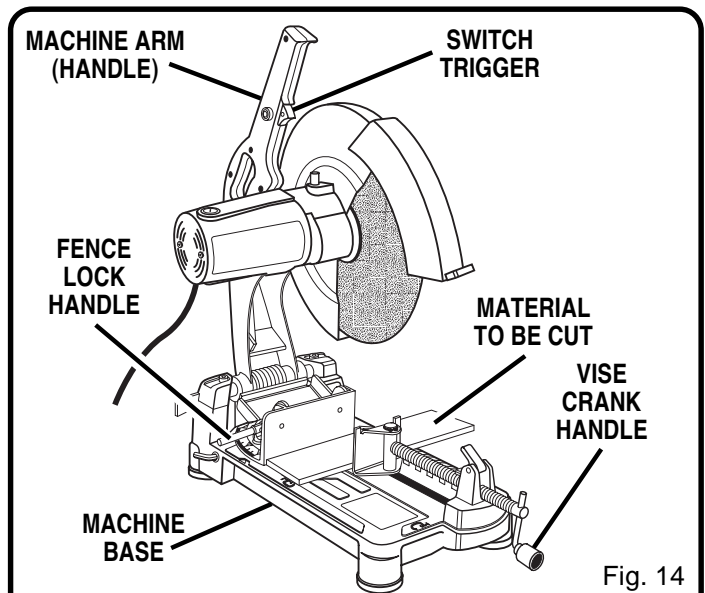

Fig. 14
See Figures 14 and 15.
- Using the fence lock handle, loosen the fence assembly. See Figures 14 and 15.